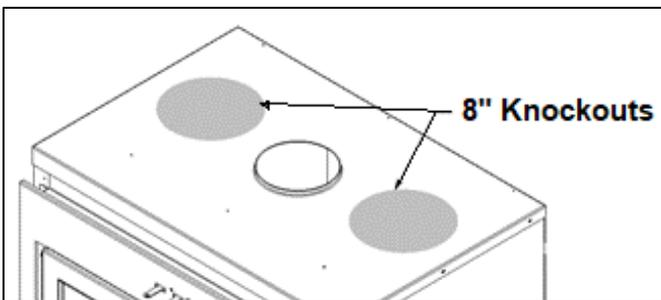

Figure 3-18: 8 Inch Knockouts for Gravity Kit
1. Remove the two 8" knockouts (2) at the top of the unit using a flat head screwdriver (Figure 3-18).